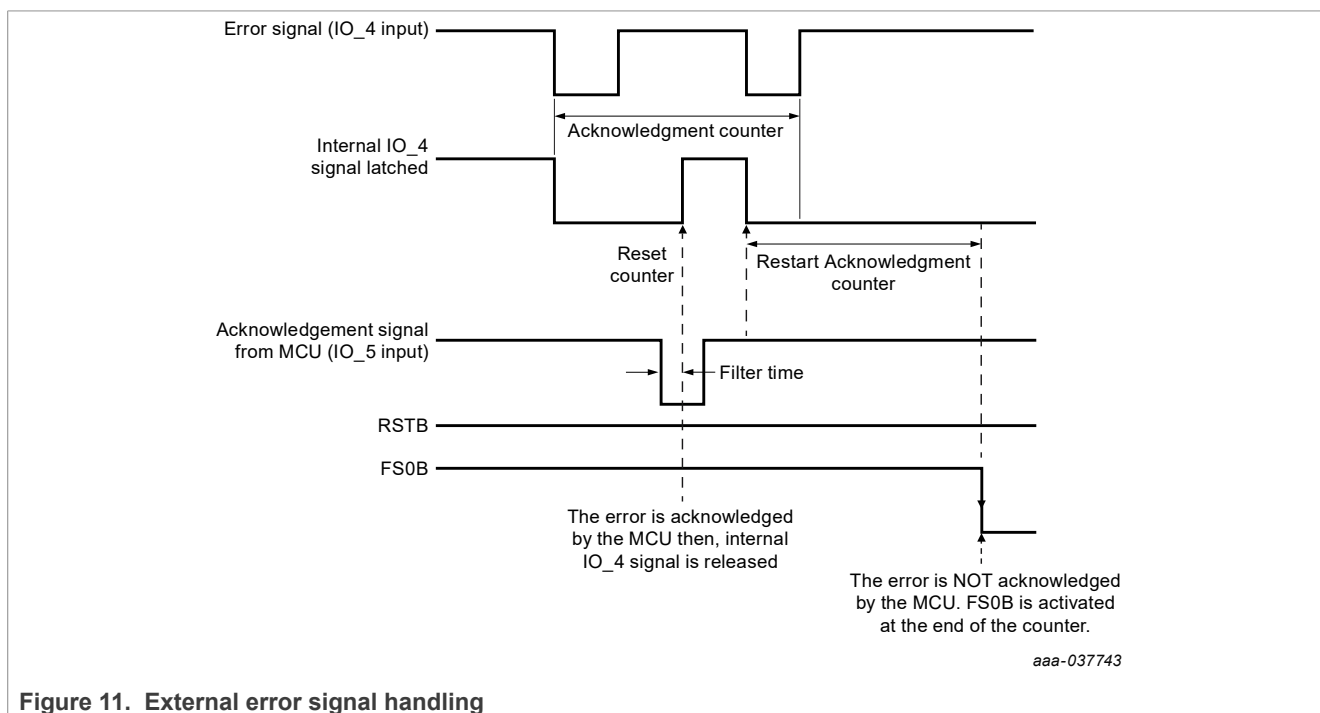

Figure 11. External error signal handling
**Safety purpose:** Digital input (logic level) to perform an IC error monitoring (both IO\_4 AND IO\_5 are used if configured as safety inputs, see Figure 11).